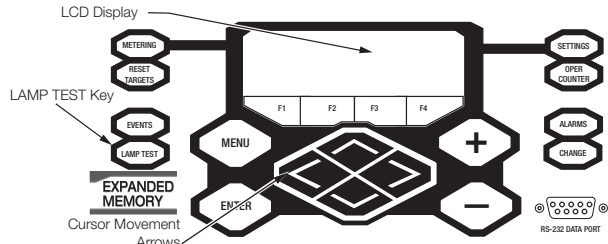

Figure 38. Lamp test button, LCD display, and cursor movement arrows
- Verify operating status of all indicator lights by pressing and holding the LAMP TEST key for two seconds on the programming panel (**Figure 38**).
Note: Scroll through the LCD display messages by pressing the \blacktriangle and \blacktriangledown cursor movement arrows underneath the LCD display on the programming panel (**Figure 38**).